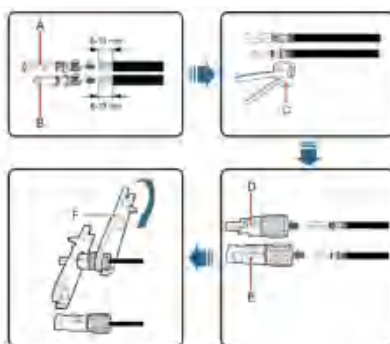

Fig 5.2 Connection of MC4 DC connector and PV string
(1) Connect the output cables of solar modules to the DC connector as fig 5.2 shows. Loose the nut of connector and remove the isolation layer of the DC cable for about 15mm. Insert it into the connector and press until heart the lock sound. Finally lighten the nut to a torque of 2.5-3 Nm. The wiring of negative pole is the same as that of the positive pole. Ensure the poles of solar modules are well connected with the connectors.